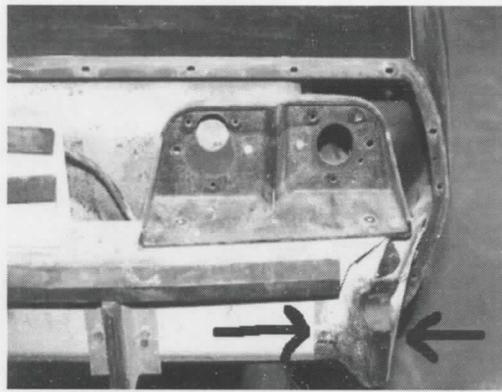

FIG. 5
5. REMOVE THE LEFT AND RIGHT BUMPERETTE REINFORCEMENT BRACKETS FROM IMPACT BAR (SEE FIG. 5).